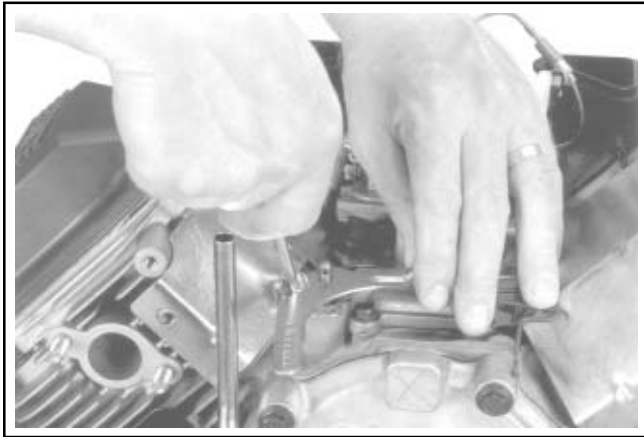

Figure 11-78. Adjusting Governor Lever.
3. Move the governor lever **toward** the carburetor as far as it will go (wide-open throttle) and hold in position. See Figure 11-78.